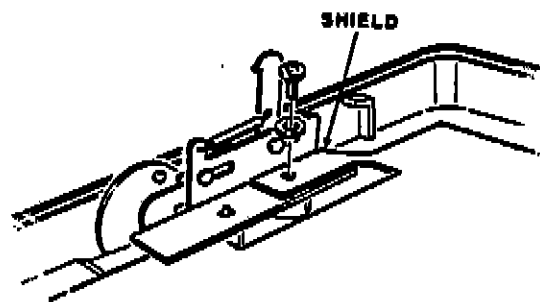

Figure 3-32. Latch Screws
Refer to Figure 3-32 for the following steps.
2. Remove the screw securing the left latch assembly, as shown in Figure 3-32. Set the latch assembly and screw aside.
3. Remove the screw securing the right latch assembly, as shown in Figure 3-32. Set the latch assembly and screw aside.